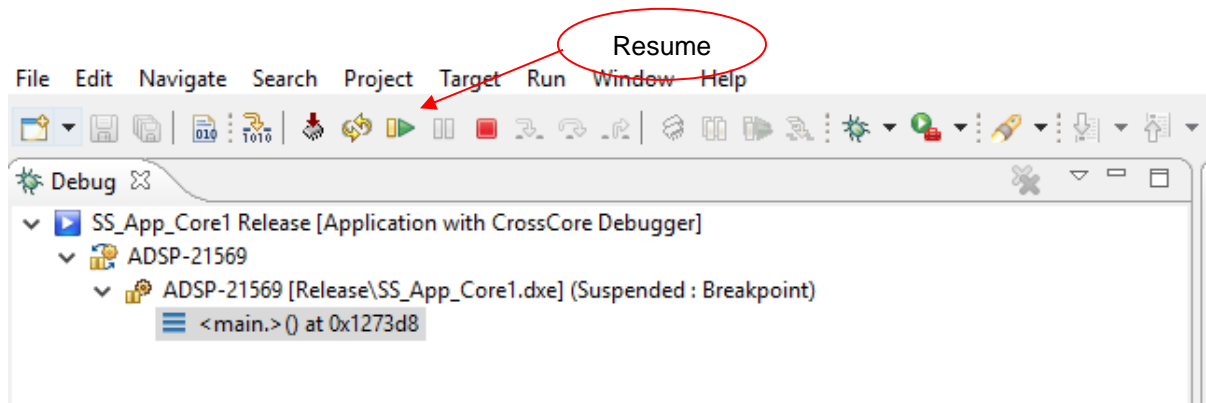

Figure 22 Debug Configuration (Resume)
8. Reset the board and press 'Debug' to launch the debug session. Click on "Resume" to run Core 1(SHARC) as shown in Figure 22.